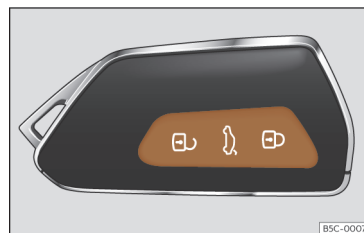

Fig. 73 Remote control key: keys.
- Lock: press the  button >>> **Fig. 73.**